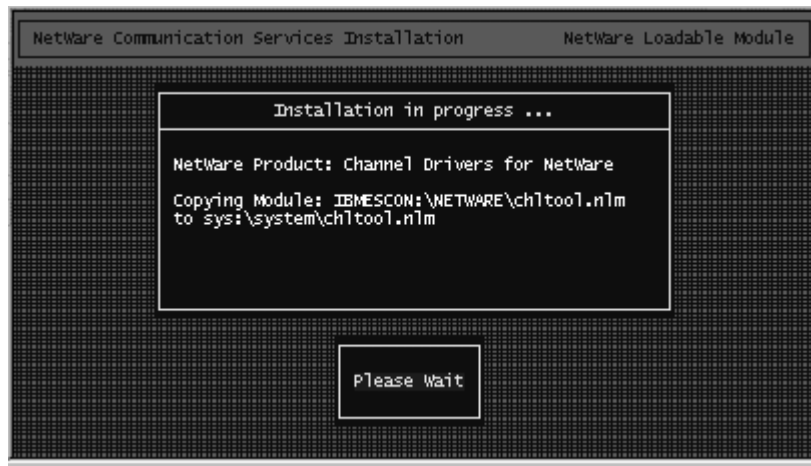

Figure 3-29. Installation in Progress
7. The installation program will then copy driver and support files into the appropriate sub-directories of the SYS: volume. A status window will show progress (Figure 3-29); periodically updating with names of files being copied.
- The installation program will then copy driver and support files into the appropriate sub-directories of the SYS: volume. A status window will show progress (Figure 3-29); periodically updating with names of files being copied.